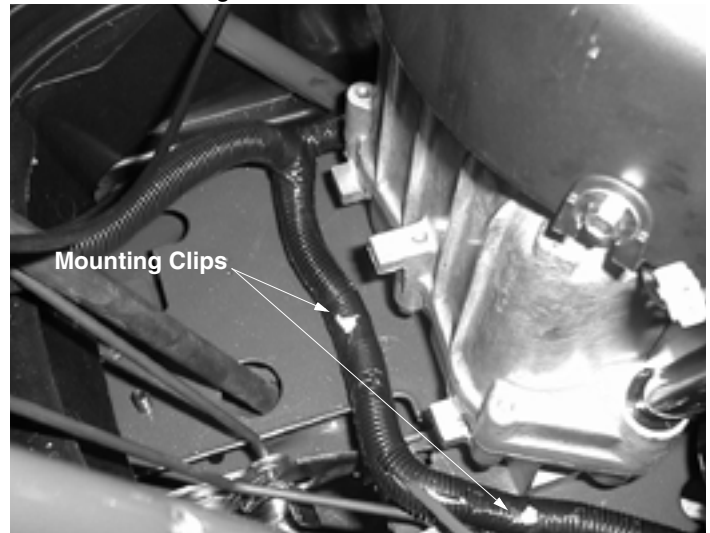

Figure 9
2. Pull section of harness with electric clutch, brake safety switch, engine, and headlight connections across behind the engine and push plastic clips into holes in frame. See Figure 9.